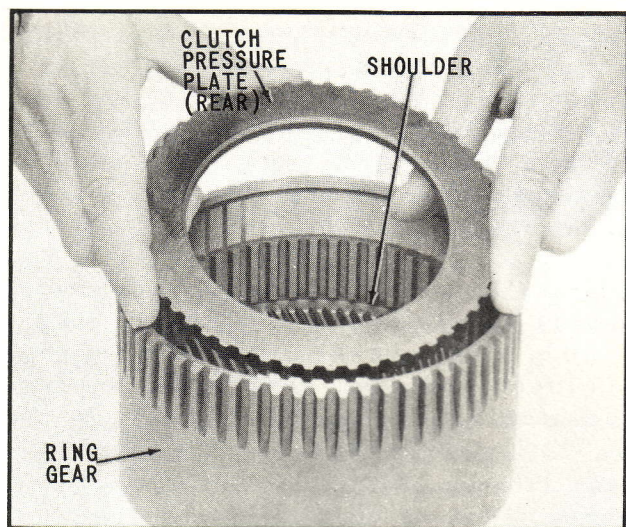

Fig. 34 Installing Clutch Pressure Plate (Rear)
23. While holding ring gear, tap with soft blunt tool on exposed face of forward clutch cylinder inside of ring gear. Forward clutch cylinder will move forward to disassemble out of front of ring gear. After removing the clutch spring and the clutch spring snap ring, all parts of the forward clutch can be disassembled as shown in (Figs. 34, 35, 36, 37 & 38).
18. Place the ring gear on a clean surface with the external teeth up, as shown in (Fig. 34).
19. Remove all dirt and solid particles from the shoulder inside the gear formed by the top of the internal helical gear, (Fig. 34).
20. With the smoothly ground face in the upward position, install the clutch pressure plate (rear) in the ring gear, as shown in (Fig. 34). Assembly is complete when the clutch pressure plate is firmly and squarely seated on the shoulder at the bottom of the internal splines.